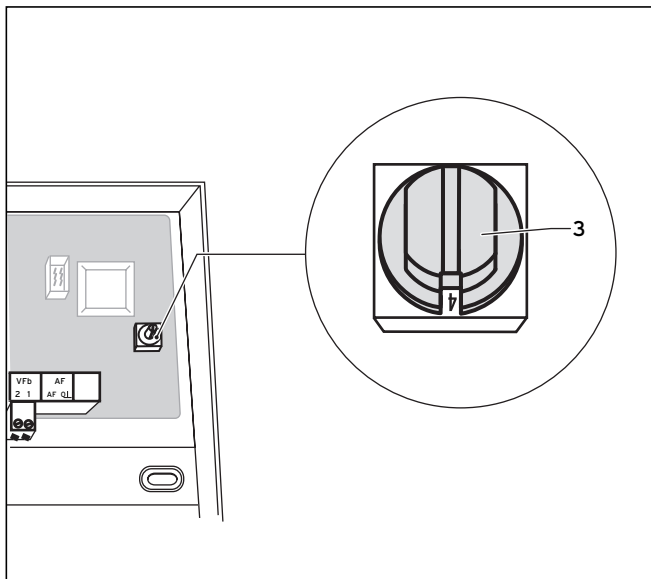

Fig. 5.3 Setting the bus address
Communication within the system takes place via an eBus. To ensure flawless communication between all the components it is necessary to allocate a unique address to the individual mixer circuit. To do this set the value 4, 6, 8, 10, 12 or 14 on the address switch (Fig. 5.3 (3)) depending upon whether the VR 60 mixer module has already been integrated in the system.